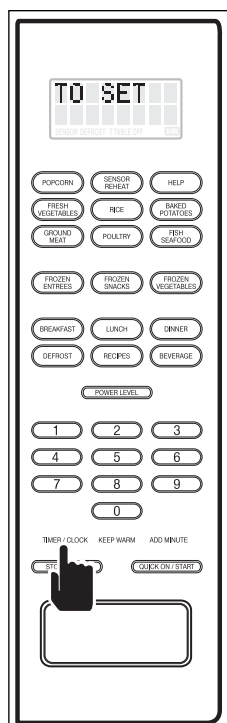

Figure 3-17.
1. Press the TIMER/CLOCK key and “TO SET - KITCHEN TIMER - PRESS 1 - TO SET CLOCK - PRESS 2” will flash on the digital display (See Figure 3-17).